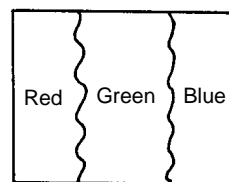

Fig. 1-4
9. Adjust the Purity knob until green comes to the center of the display as shown in Fig. 1-4.